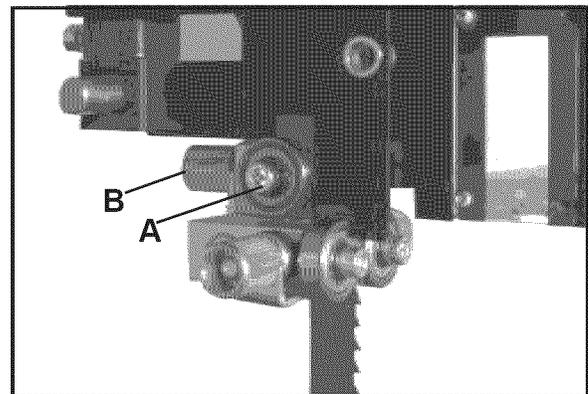

Figure 13
c. Adjust the rear bearing guide to be just clear of the back of the saw blade releasing the guide adjusting screw (A-Fig.13) and by turning the micro-adjusting knob (B-Fig.13).
d. When the correct adjustment is reached, lock the bearing guide in position with the guide adjusting screw (A-Fig.13).